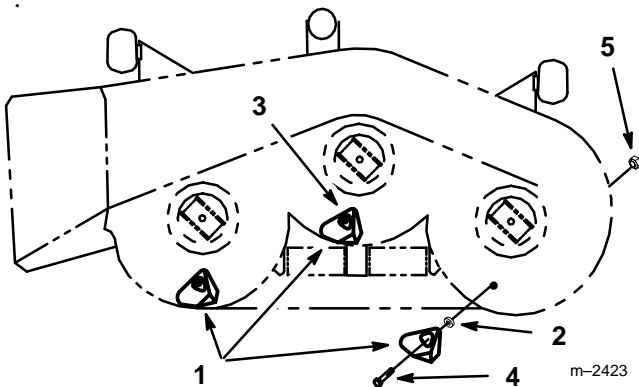

Figure 1
4. Place spacers and kickers inside mower, over holes provided (Fig. 1). Secure with 5/16-1" (26 mm) bolts through from inside mower, except center through from outside, and 5/16" lock nuts (Fig. 1).